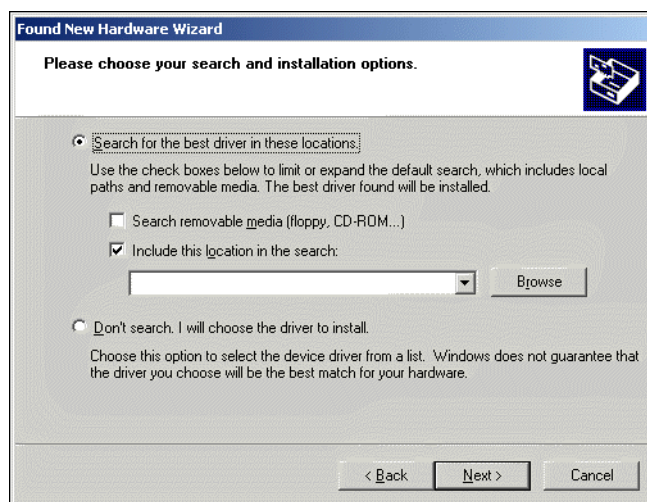

Figure 4-10. Choose search and installation options
- 5 Select “Install from a list or specific location (Advanced)” and click Next. A dialog appears (Figure 4-10).
- 2 Click Next. The Install Hardware Device Drivers dialog appears (Figure 4-10).